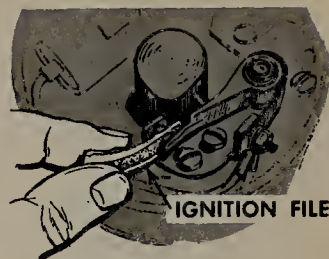

FIGURE 14.16 Breaker points can be cleaned with a contact file.
1. Cleaning Points. Once you have the breaker points exposed by removal of the flywheel and the dust cover, where present, examine them for oxidation or pits. If they are only slightly burned or pitted, they can be cleaned with a special ignition file, as shown in Fig. 14.16. It is not necessary to file the points until they are smooth. Just remove the worst of the high spots. Blow out all dust after cleaning the contacts. Pull a strip of clean bond paper between the points (with points closed) to remove the last traces of filings.